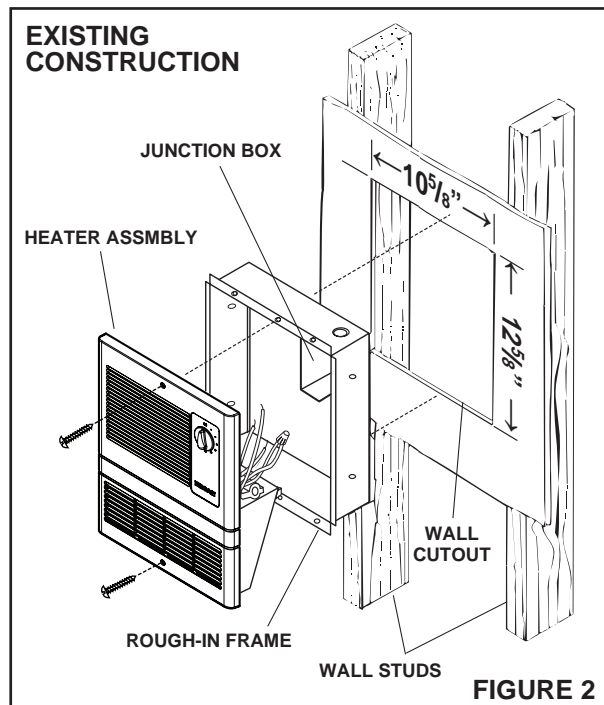

FIGURE 2
2. **Refer to Figure 2.** Make wall cutout next to a wall stud. Cutout size:  $12\frac{5}{8}$ " high x  $10\frac{5}{8}$ " wide. (with frame.)